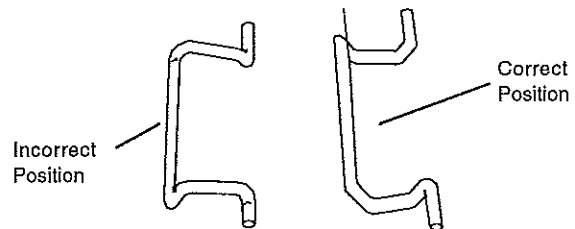

Figure 4-28.
**NOTE:** Before connecting the inside master links, notice that these links have a correct position (Figure 4-28). The link at the right is in the correct (horns up) position for inserting into the conveyor belt. The horns facing down are in the incorrect position.